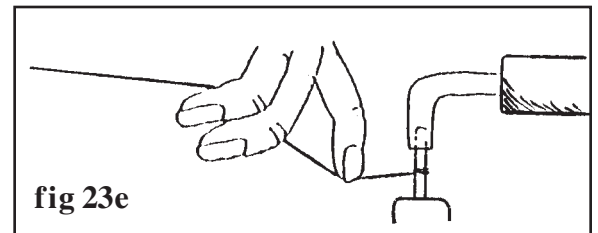

fig 23e
D) Then continue holding the string taut as you turn the pin clockwise to wind the string nicely on the pin until there is a little tension on it (Fig 23e).